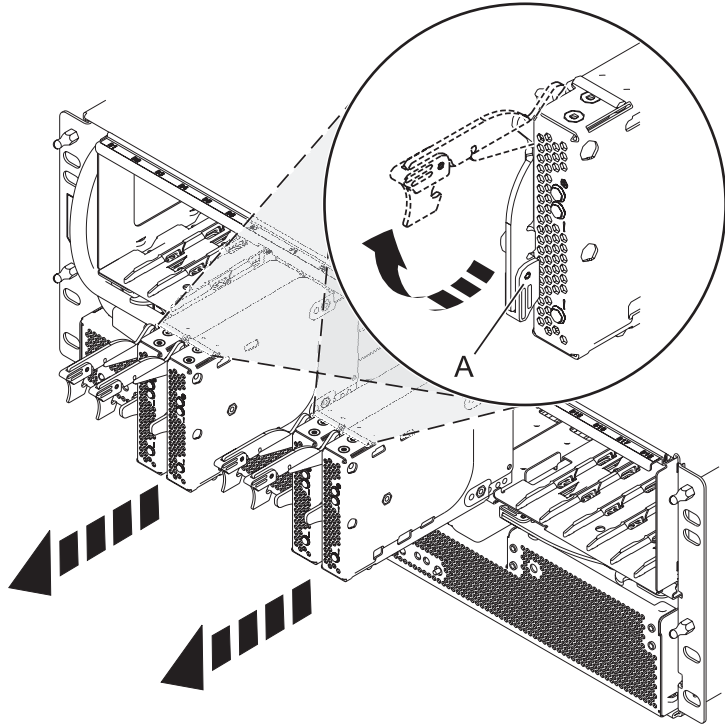

Figure 75. Removing the port card from the backplane
5. Remove the port cards and fillers as shown in Figure 75 on page 83.
- a. Hold the end of the latching handle (A) and pull it upward to unlock the port card.